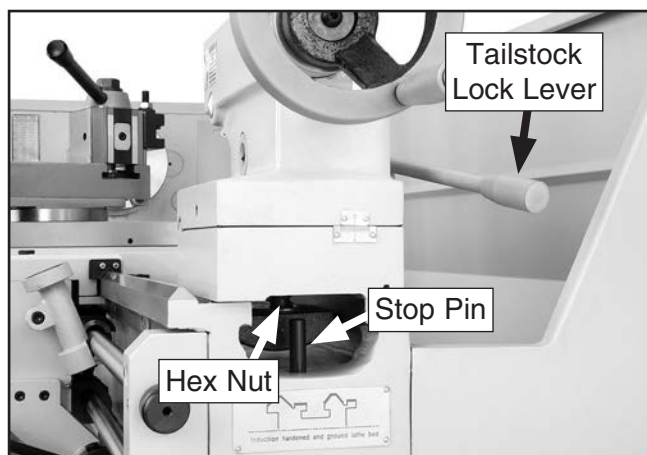

Figure 105. Tailstock locking hex nut and plate.
1. Unthread the stop pin (see **Figure 105**), and carefully slide the tailstock from the lathe.